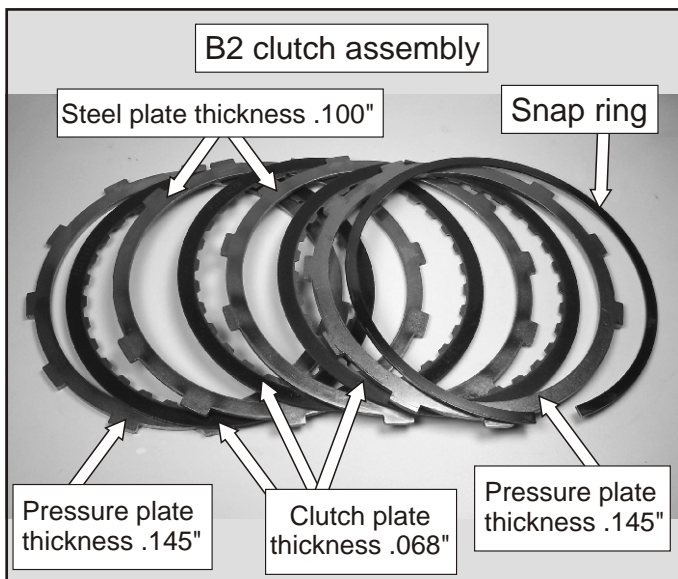

Figure 124
- 71. Assemble the B2 clutch assembly into the housing starting with the .145" thick pressure plate, as shown in Figure 124, ending with the snap ring. Check the clearance between the top pressure plate and the top B2 clutch plate. The clearance should be between .025"- .030."